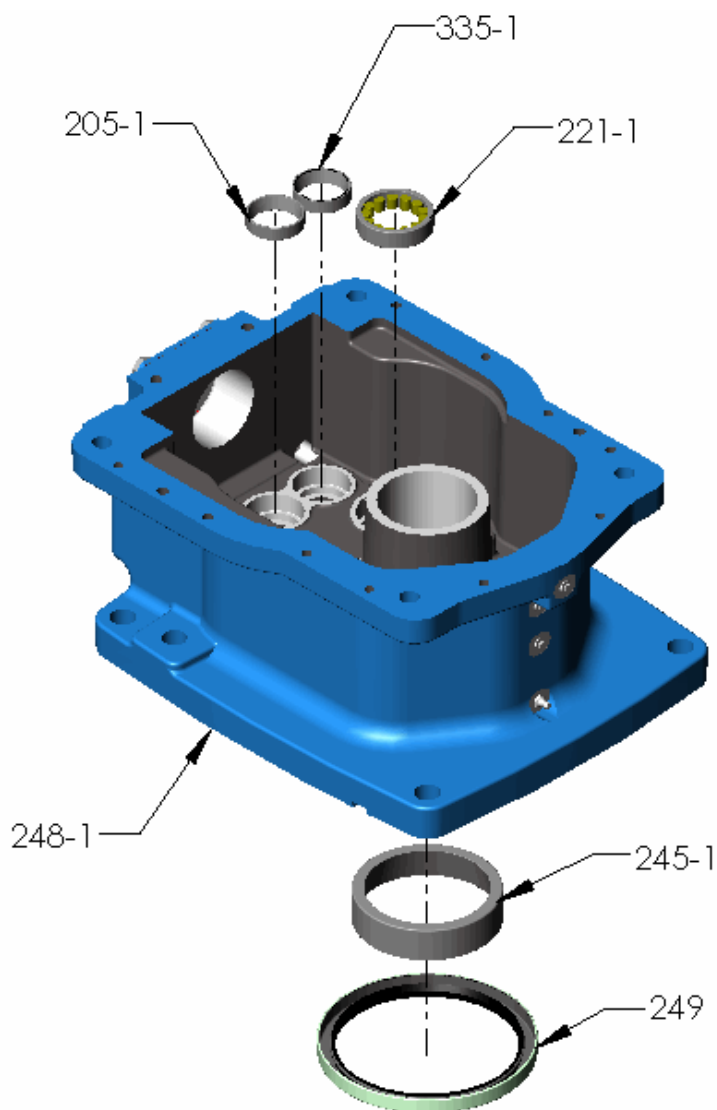

Figure 14 – Bottom Case
- (4) On assembly, lubricate all fasteners with grease, oil or an anti-seize material. Lubricate threads and contact surfaces of bolt heads and nuts. If fasteners cannot be lubricated, increase torque values given in Table 1 by a factor of 1.33.
- (5) Bearing cones are installed with interference fits, heat cones and press on to the shaft. Heat bearings in oven or oil bath:
- (6) Bearing cups are installed with interference fits, put the cups in dry ice to lower temperature and press into housing.
- (7) Install lip seals with the seal lip towards the bearing. Coat the seal lip with bearing grease before installing the shaft.
B. At bottom case **[248-1]**, install following items (refer Figure 14):